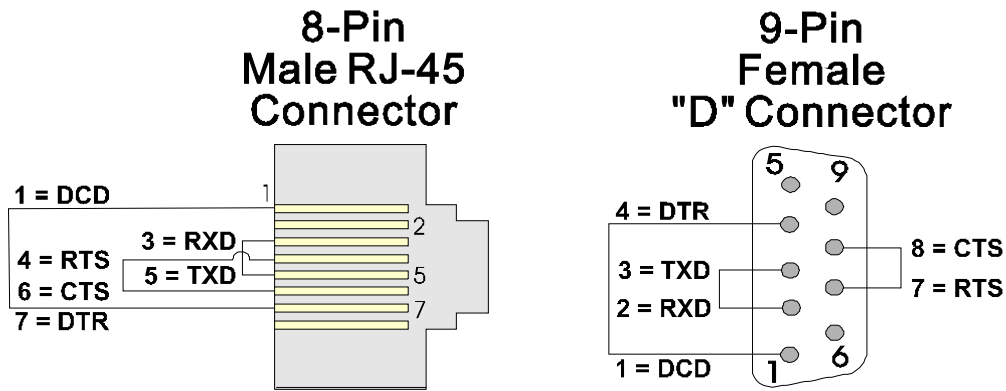

Figure 3-9 - RS-232 Loop-back Plugs
- Ports 1, 2 & 4 set-up for RS-232 use a 9-pin female D-type loop-back plug (see Fig. 3-9).
- Port 3 set-up for RS-232 use an 8-pin male RJ-45 loop-back plug (see Fig. 3-9).
1. Connect an external loop-back plug to the CPU Port to be tested, i.e., J2 of CPU for Port 1, J3 of CPU for Port 2, J2 of SCB for Port 3, or J3 of SCB for Port 4 (see Figures 3-9 through 3-11).